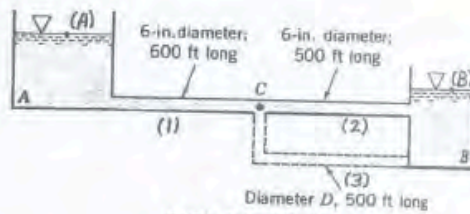

FIGURE P8.110
8.110 The flowrate between tank A and tank B shown in Fig. P8.110 is to be increased by 30% (i.e., from Q to $1.30Q$) by the addition of a second pipe (indicated by the dotted lines) running from node C to tank B. If the elevation of the free surface in tank A is 25 ft above that in tank B, determine the diameter, D , of this new pipe. Neglect minor losses and assume that the friction factor for each pipe is 0.02.